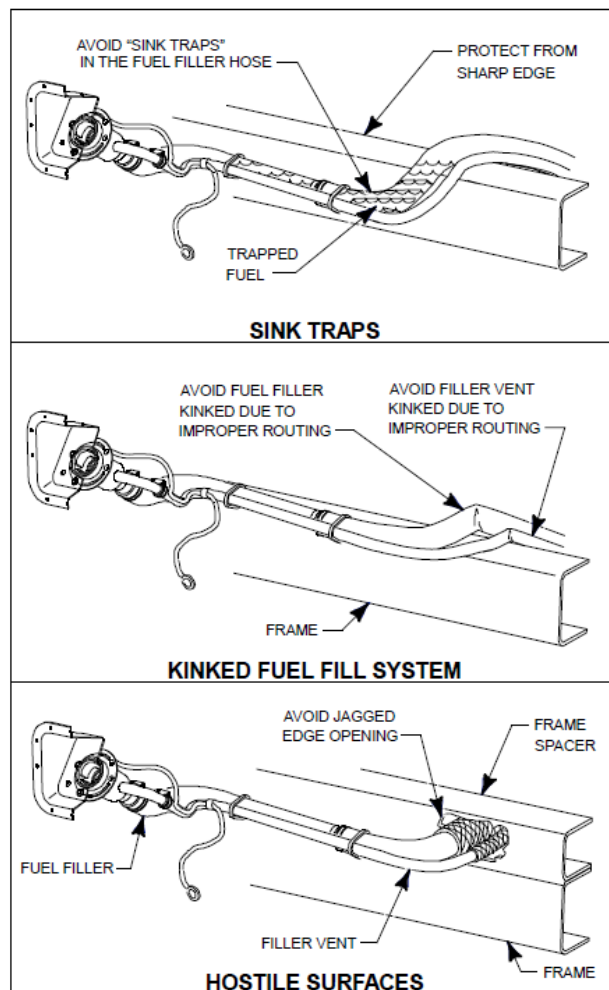

Figure 5 – Fuel Fill System Installation
- When installing accessories or equipment, avoid exposure of fuel and vapor hoses to surfaces with sharp edges (see "Hostile Surfaces", Figure 5) or high temperature surfaces (near hot exhaust or coolant). Also avoid installations which result in the exposure of these lines to road debris or undercoating.
- Keep the flow of fuel continuously downward from the inlet of the fuel filler pipe all the way to the tank. See "Sink Traps" in Figure 5. Fuel trapped in low spots can be expelled when the cap is removed, even if the tank is nearly empty.
- Avoid pinches or kinks as they may restrict fuel filling and venting. Hose length may require adjusting depending on second unit body width. See "Kinked Fuel Fill System", Figure 5
- Do not place adjacent hardware such that it may cut or otherwise damage the filler neck or vent hoses and cause fuel or vapor leakage. See Hostile Surfaces, Figure 5.